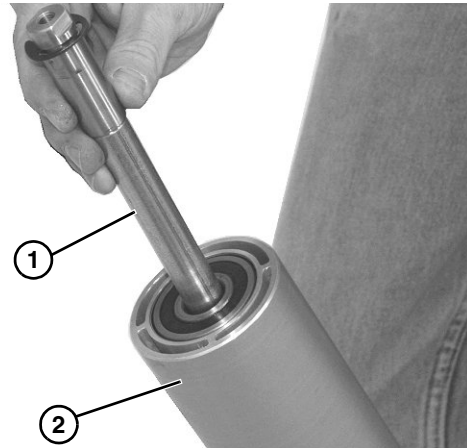

Figure 36
6. Slide the shaft assembly (**Figure 36, item 1**) out of the pulley (**Figure 36, item 2**).